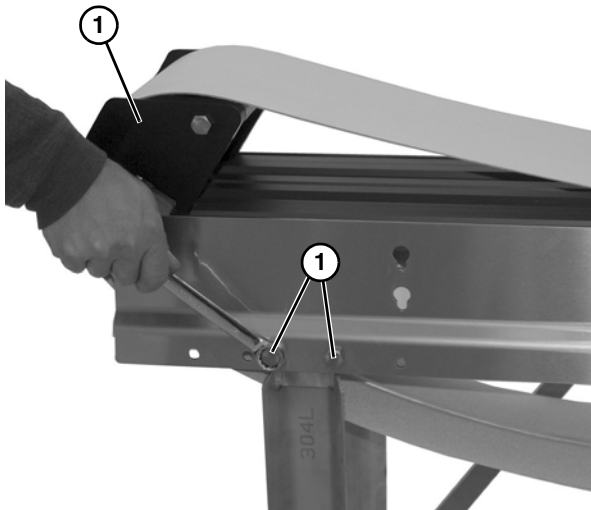

Figure 31
3. Rotate idler tail end (**Figure 31, item 1**) of conveyor upward as shown.
4. Remove two cap screws (**Figure 31, item 2**) holding stand to conveyor.